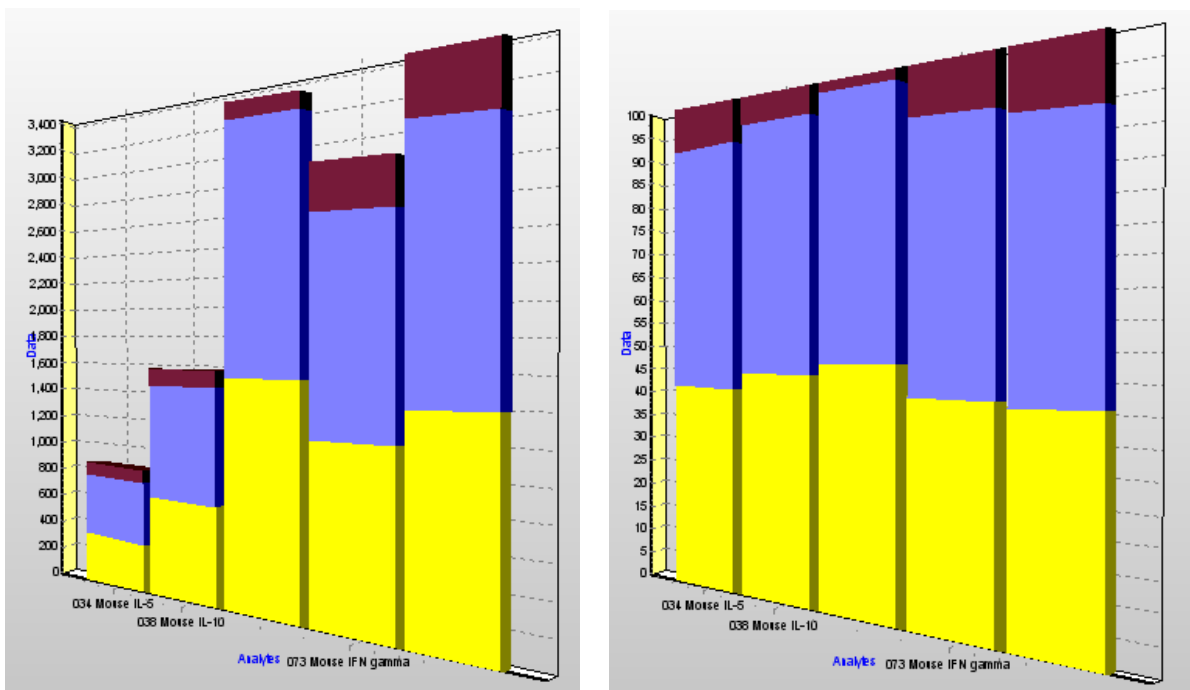

Figure 7.32 3D depth chart
- Stacked** Choose this option to combine the separate bars of a series into one vertical column (Figure 7.32).
- Stacked 100%** Choose this option to display the percentage data for a series in one vertical bar. Each segment of the bar represents the percent a particular series value contributes to the total bar value (Figure 7.32).